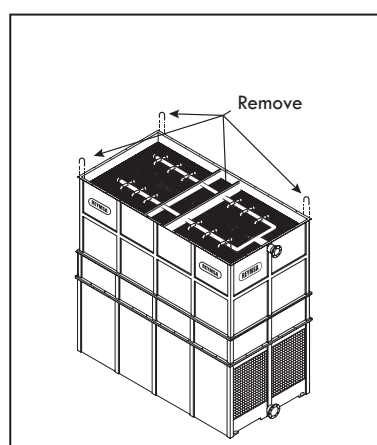

Figure A-79: Removing U-bolts from the Upper Body section of a modular tower (RTGM-D & RTGM-E)
- M. **Only for RTGM-D & RTGM-E models:** Remove U-bolts from top of the Upper Body section (see Figure A-79).